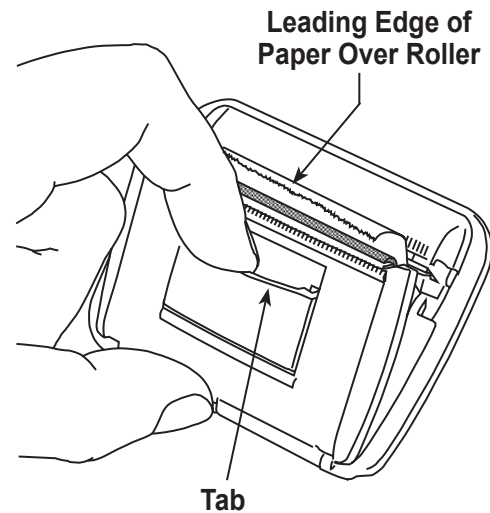

Figure 29
1. Remove the cover on the printer by pulling out on the tab as shown in Figure 29.